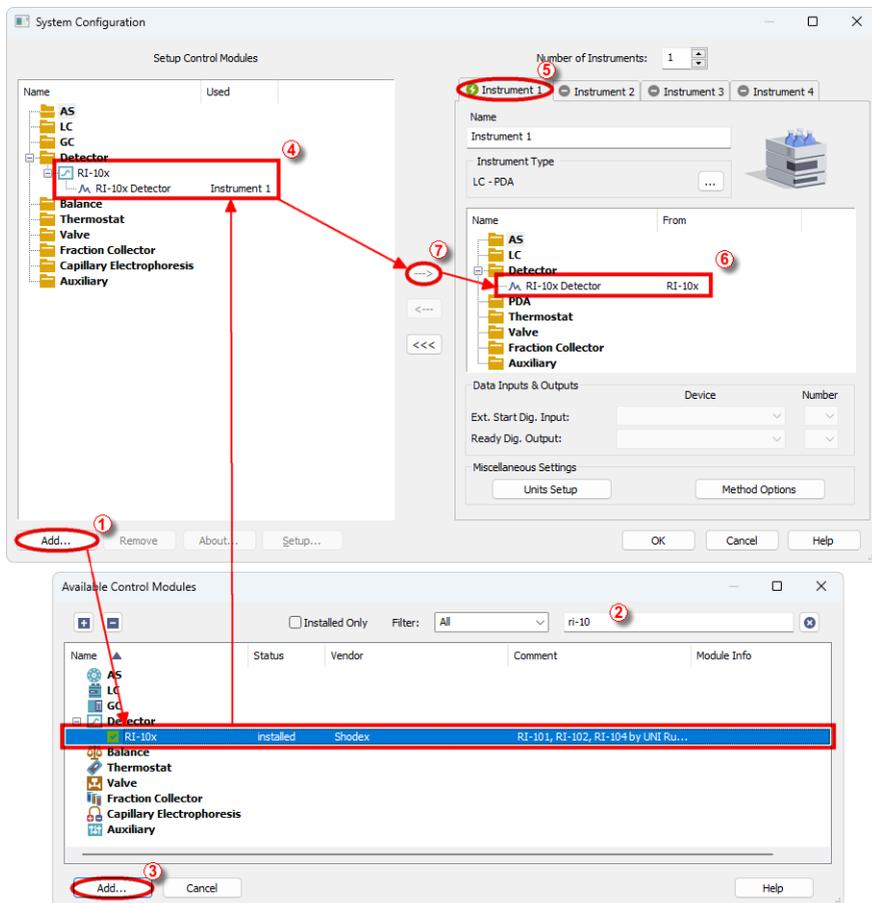

Fig. 3: How to Add Shodex RI-101 module
- Press the **Add** button (① on Fig. 3 on pg. 4.) to invoke the *Available Control Modules* dialog.
- You can specify the search filter (②) to simplify the finding of the driver.
- Select the correct item and press the *Add* (③ on Fig. 3 on pg. 4.) button. Each device with already created UNI profile should have its own item named accordingly in the *Available Control Modules* dialog.